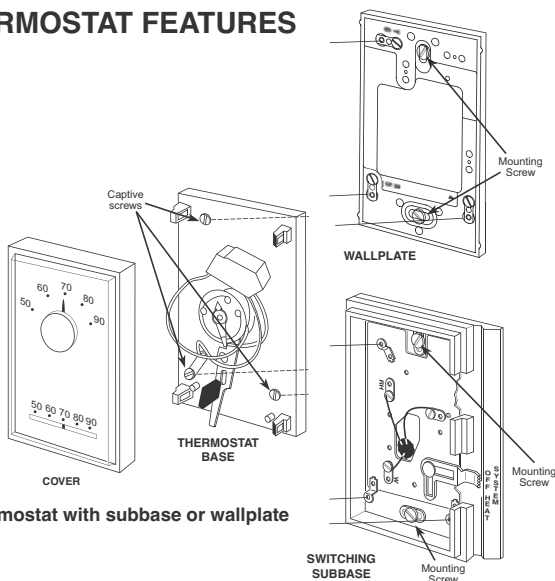

Figure 1. Thermostat with subbase or wallplate
- Mount switching subbase or wallplate:** Use the screws provided to mount the subbase or wallplate to wall (see Fig. 1).
- Mount Thermostat Base:** Gently push excess wire back into the wall opening and plug hole with a fire-resistant material, such as fiberglass insulation to prevent drafts from affecting thermostat operation. Mount the thermostat base to the subbase or wallplate using the three captive screws on the thermostat base. See Fig. 1) Tighten the screws securely. Proceed to Step #5.